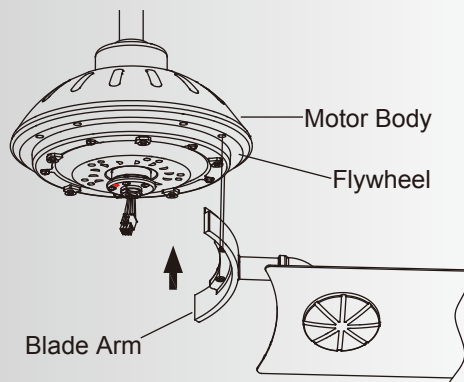

Fig. 17
Step 2. Fasten blade assembly to the holes located on the bottom of the flywheel. Tighten the two "pre-installed" motor screws in the blade arm. Repeat steps for the remaining blades assemblies. (Fig. 17)